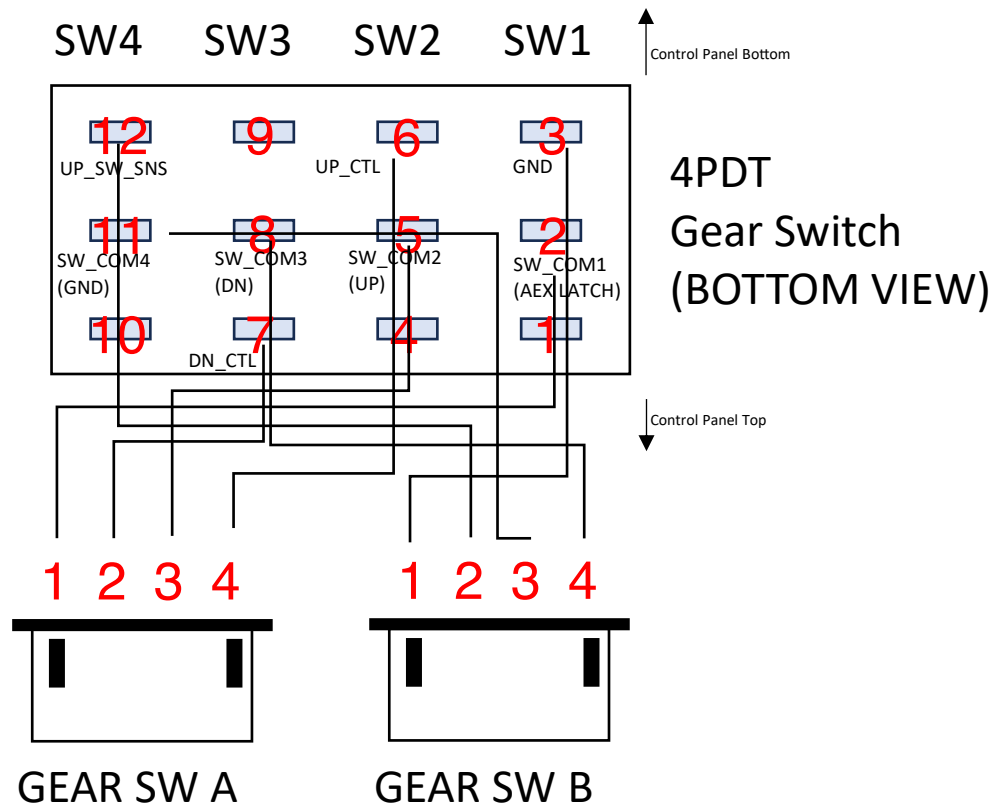

Figure 21 - Control Panel Gear Position Select Switch Wiring
9. (Attach 4-wire JST cables to the toggle switch solder tabs). Using a sharpie, label one of the 4-wire cables “A” and the other one “B”. Also, with the switch actuator facing away from you label each switch column (i.e. pole) 1-2-3-4 from left-to right on the top of the switch. Before beginning to solder the wires on the switch solder lugs, strip and tin about 1cm of wire on each end and put a piece of shrink wrap on each of the eight wires. Attach the two JST four-wire cables as per the following diagram (Figure 21):